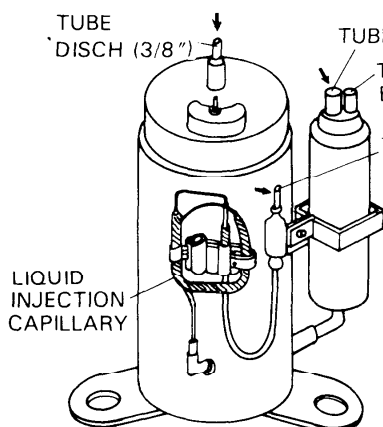

Fig. 23
- 5) With an Oxy-Acetylene torch apply heat uniformly and unbrazed the joints of upper section of the Liquid Injection Capillary tube to the compressor, the upper section of the accumulator and the upper section of the compressor discharge tube respectively, and pull them free with pliers. Fig. 23 shows unbrazing points with arrows.